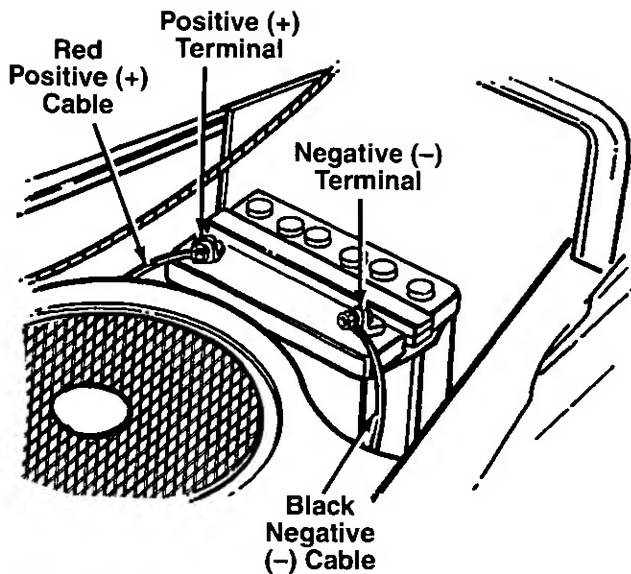

FIGURE 9.
2. Attach the positive cable (heavy red wire) to the positive battery terminal (+) with hex bolt and hex nut. See figure 9. Slide the rubber boot down over the positive terminal.